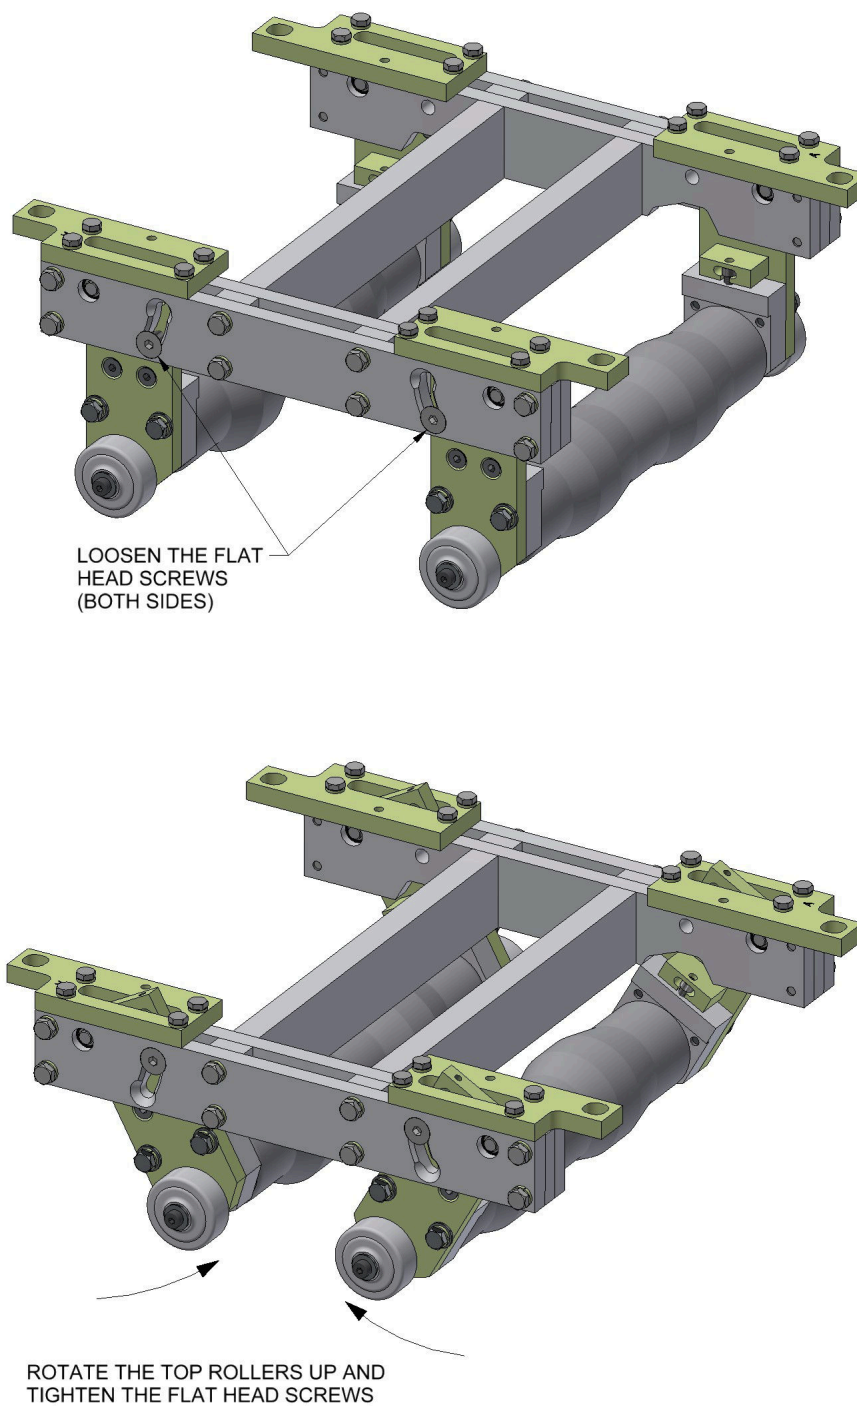

Figure 25: Disengaging the Top Rollers
3. Disengage the top rollers of stations 1-14 as shown in Figure 25 below.